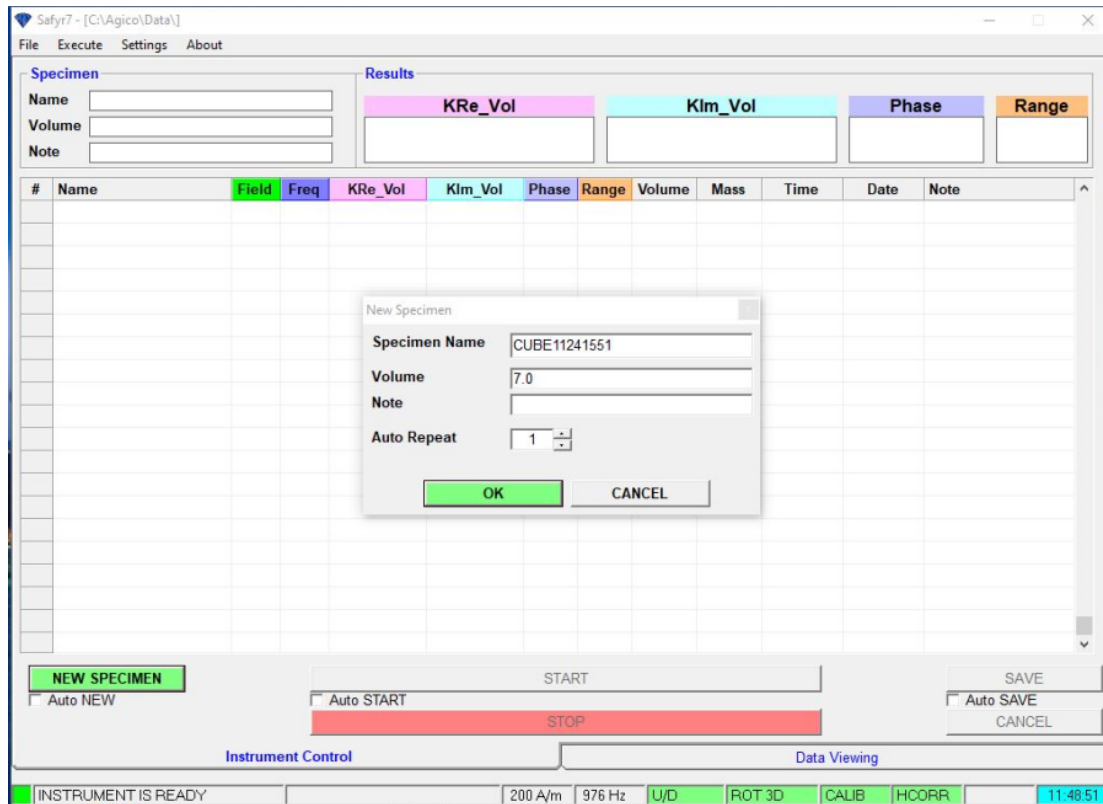

Figure 38: New specimen window
1. Select **NEW SPECIMEN** and a new specimen window will open (Figure 38).